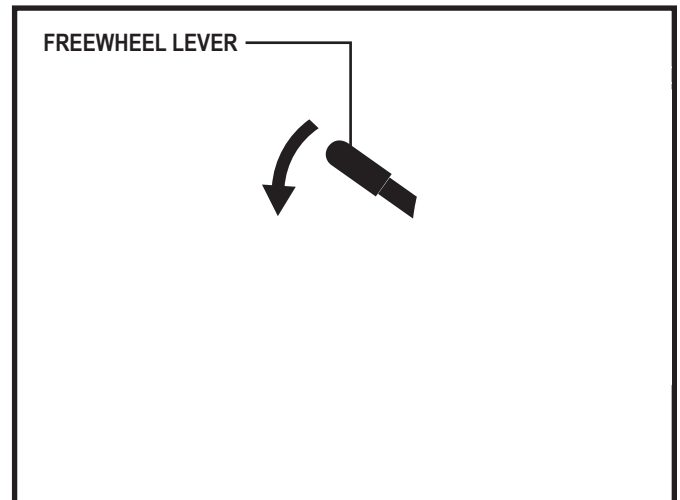

Figure 5. Freewheel Mode (Drive Disengaged)
3. Push both levers down to disengage the drive motors (freewheel mode). See figure 5.